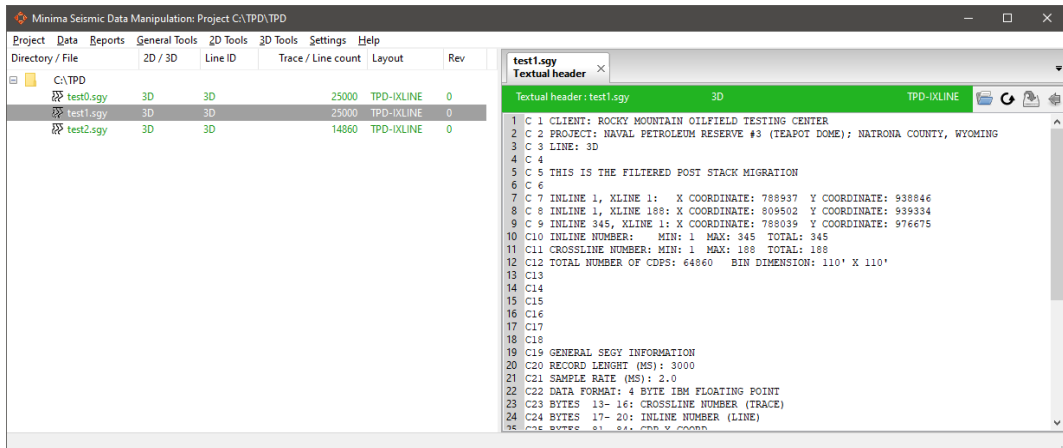

Figure 4-3 Textual header display window
1. Select Textual Header from the popup menu (Figure 4-5). The selected file's textual header will be displayed in a panel on the right-hand side of the main window (Figure 4-3)